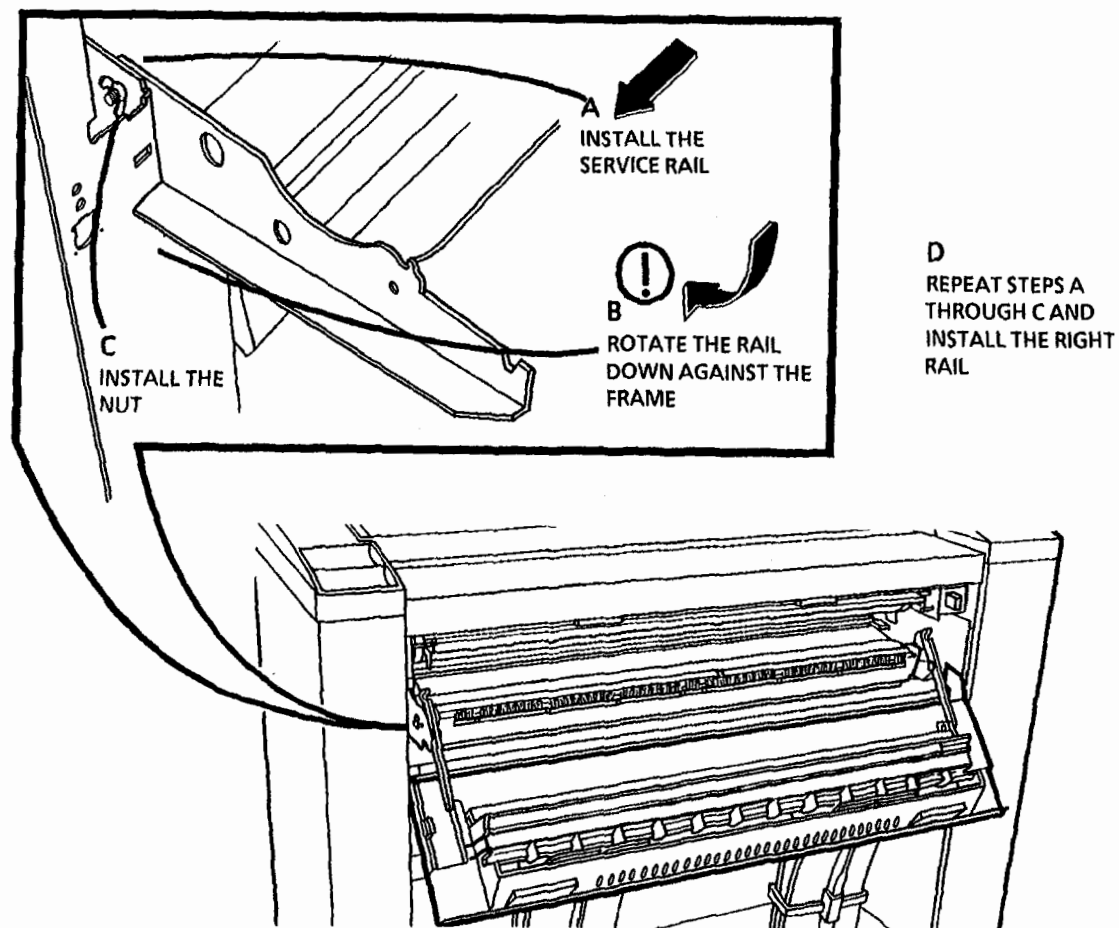

Figure 18. Installing the Service Rails
20. (Figure 18): Install the Service Rails.